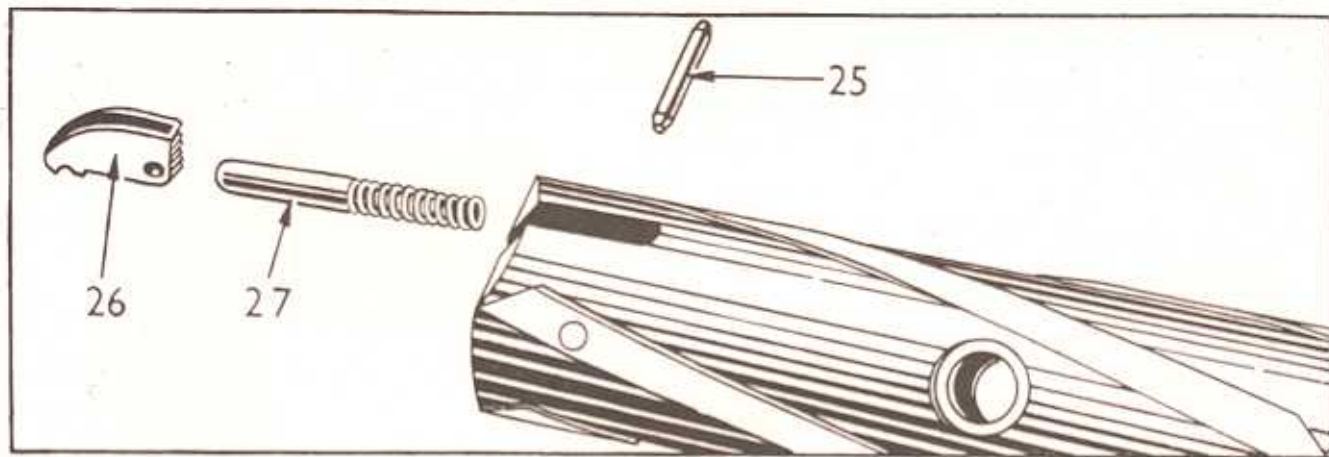

Fig. 14. To remove extractor
9.3 TO REMOVE EXTRACTOR (Fig. 14). Push out extractor retaining pin (25) and remove extractor (26). During this operation hold extractor with thumb or forefinger otherwise it may shoot out. Remove extractor plunger and spring (27).